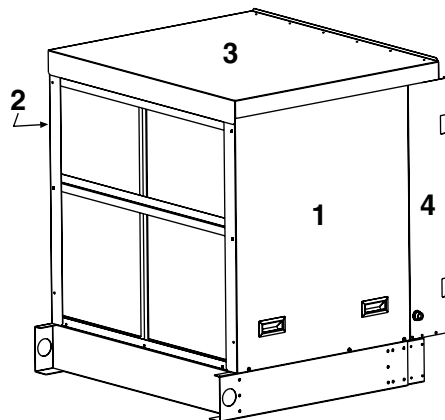

Figure 48. Evaporative Cooling Module Cabinet Components (Refer to Table 71)
- The module's factory-installed cabinet components (see Figure 48) are listed in Table 71.